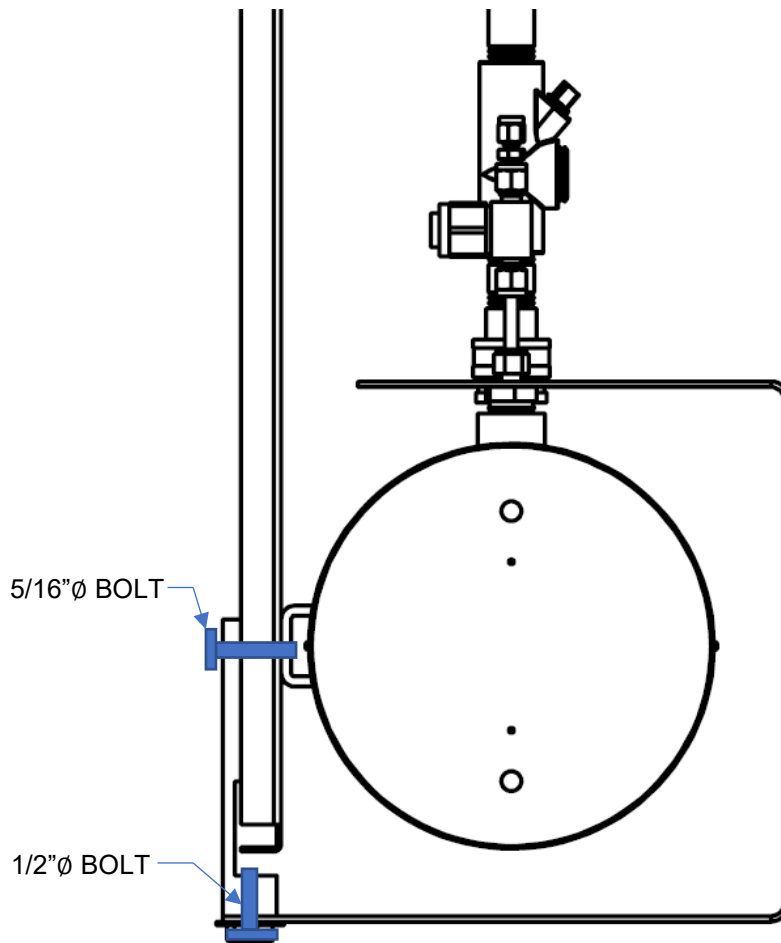

Figure 5: Detail illustration of Total Sulfur Furnace Guard assembly
2. Line up the cross-body through-hole of the Mounting Bar with the Total Sulfur Furnace mounting hole of the back panel (see Figure 5).